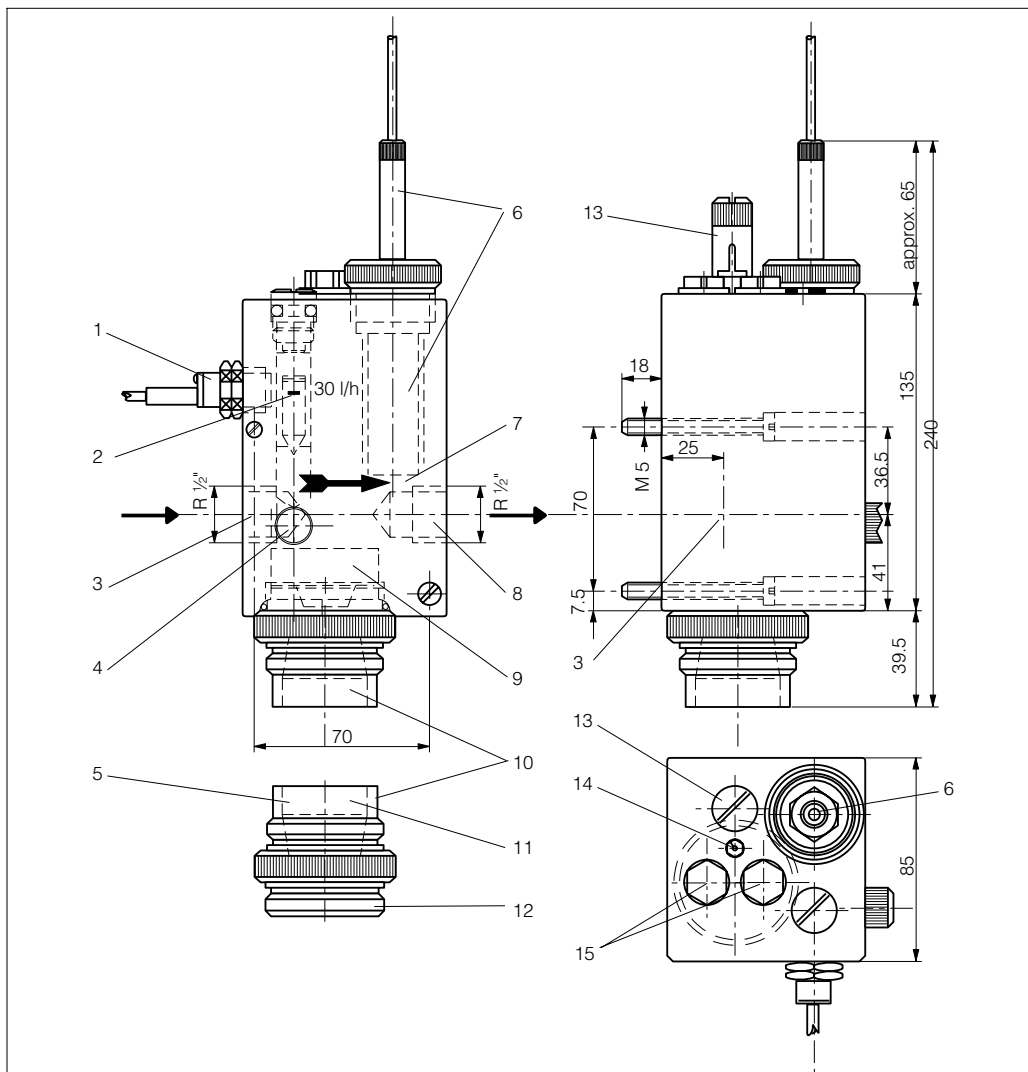

Fig. 2 OCA 250
The minimum flow rate of 30 litres per hour required for the membrane-covered chlorine sensor is controlled by means of needle valve (4), compare fig. 2 on next page. The upper edge of the floating body must be above the red bar on the plexiglass body.
- Installation of chlorine sensor OCS 140/141 or chlorine dioxide sensor OCS 240/241 (see fig. 2): Loosen and remove the clamping screw. Insert the sensor in the mounting position and firmly tighten with the clamping screw.